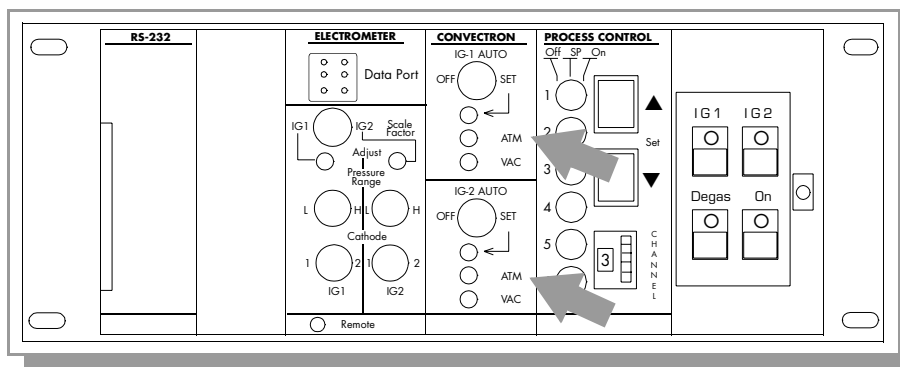

Figure 4-20 Control Unit Front Panel (with Door Open) Showing Convectron Gauge Zero and Atmospheric Adjustments.
2. With power on and at vacuum less than 1×10^{-4} Torr for at least 15 minutes, adjust VAC for gauge A (see Figure 4-20) until display A indicates 0.0 0 Torr/mbar or 0.0 0 Pa, not 1.0 -4, 1.0 -2, or 0.0 -0.